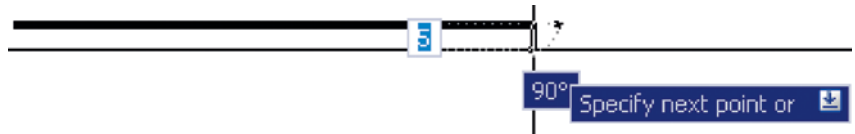

Fig. 3.29 Dynamic Input – first example – Polyline – the horizontal length
- Drag the cursor to the right until the dimension shows the required horizontal length and *left-click* (Fig. 3.29).